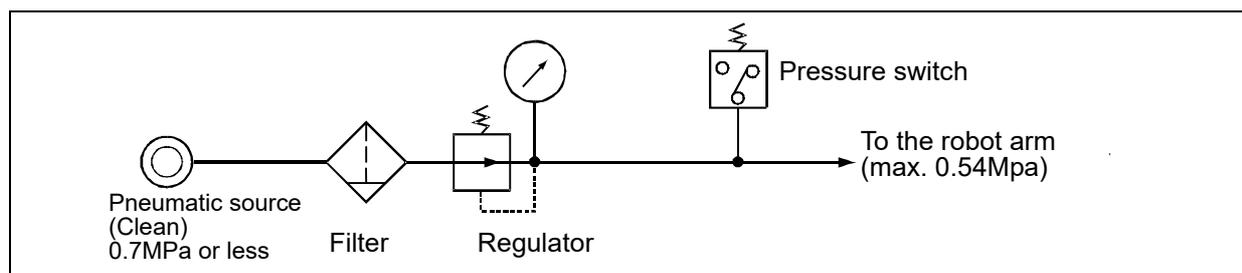

Fig.2-10: Air supply circuit example for the hand
- 2) When the factory pneumatic pressure drops, as a result of the hand clamp strength weakening, there can be damage to the work. To prevent it, install a pressure switch to the source of the air as shown in Fig. 2-10 and use the circuit described so that the robot stops when pressure drops. Use a hand with a spring-pressure clamp, or a mechanical lock-type hand, that can be used in cases where the pressure switch becomes damaged.